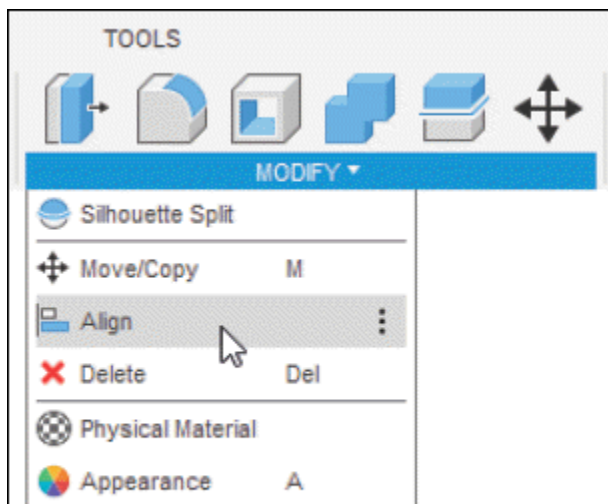
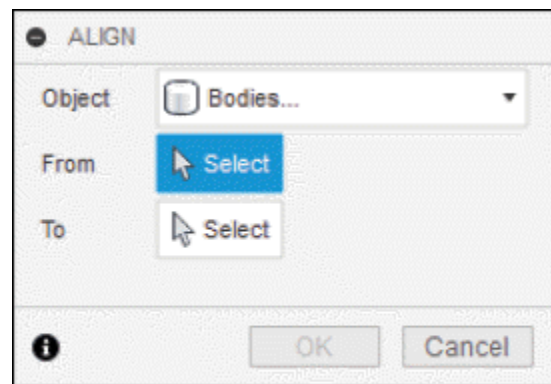

Figure-58. Align tool
Figure-59. ALIGN dialog box
- Click on the **Align** tool of **MODIFY** drop-down from **Toolbar**; refer to Figure-58. The **ALIGN** dialog box will be displayed; refer to Figure-59.